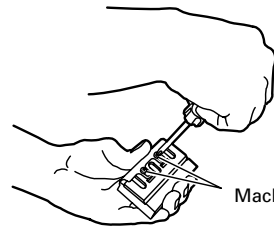

Fig. 10
- (3) Loosen the 2 screws holding on the carbide blade and set plate (A), set plate (B).
- (4) As shown in **Fig. 10, 11**, press the turned surface of set plate (A) to the wall surface (B) while adjusting the carbide blade edge to the wall surface a of the set gauge. Then, tighten them with the 2 screws.